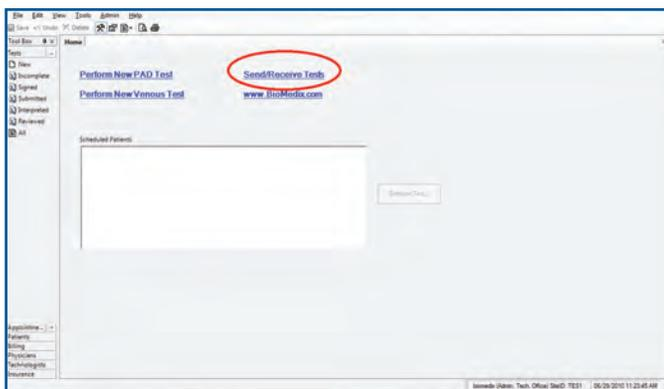

FIGURE 1.48 - Home screen - “Send/Receive Tests” Link
2. From the Main Menu/Home Screen, click “Send/Receive Tests” (Figure 1.48).
1. From Main Menu, click “Send/Receive Tests” (Figure 1.48).